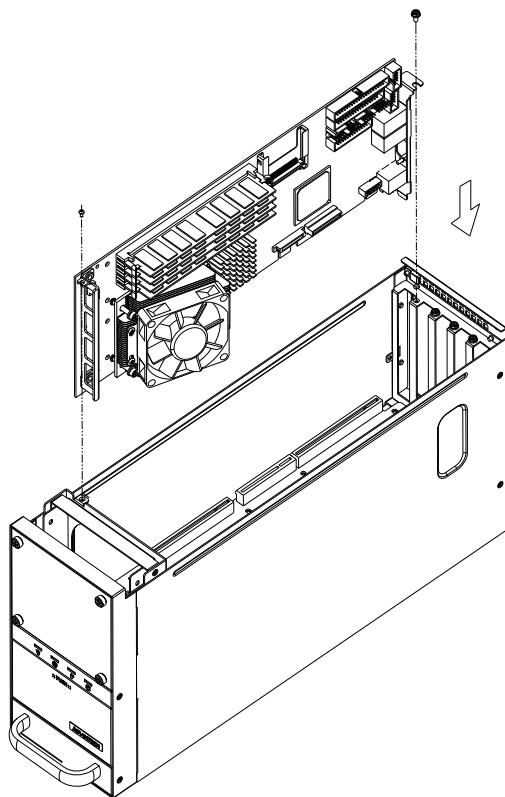
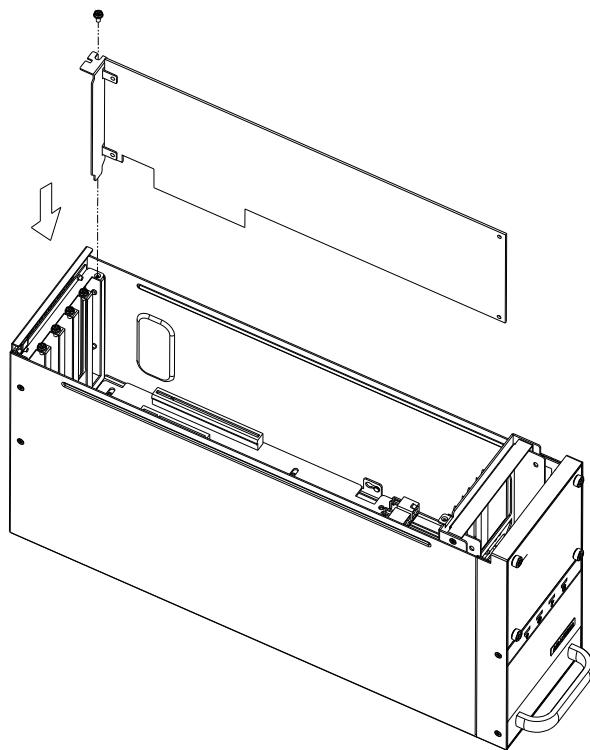

Figure 2.3 Installing a CPU card/ 安装 CPU 卡 / 安裝 CPU 卡
Figure 2.4 Installing an add-in card/ 安装附加卡 / 安裝附加卡
2. Insert the CPU card (with CPU, CPU cooler, RAM, and necessary cables installed) and add-on cards vertically into the proper slot. For full-length CPU card, please make sure that the card bracket has been inserted properly and the other edge of the card has been inserted into the plastic guiding fillister. Fasten the screws on the top of both brackets of the card. (See Figure 2.3, Figure2.4)
2. 将 CPU 模块（含 CPU、CPU 冷却器、RAM 和安装所需电缆）和附加卡垂直插入对应插槽。对于全长 CPU 卡，请保证卡的支架已经正确插入并且卡的另一端已插入塑料引导槽。旋紧两块卡上端的支架将卡固定好，如图 2.3、2.4 所示。